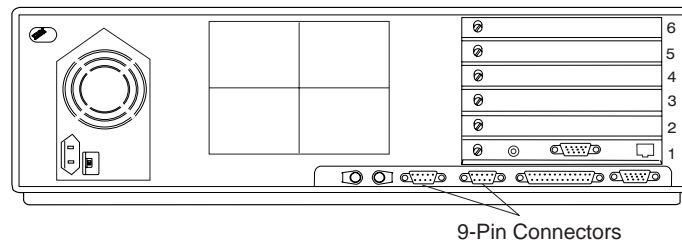
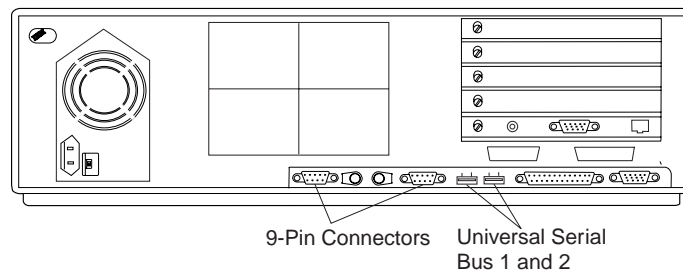

Figure 4-1. Nways Switch Administration Station Based on on 7585-001
Figure 4-2. Nways Switch Administration Station Based on on 7585-P02
- Two Models of Nways switch administration station based on 7585 processors are available. Identify them using the Figure 4-1 and Figure 4-2 before going through the following procedures.